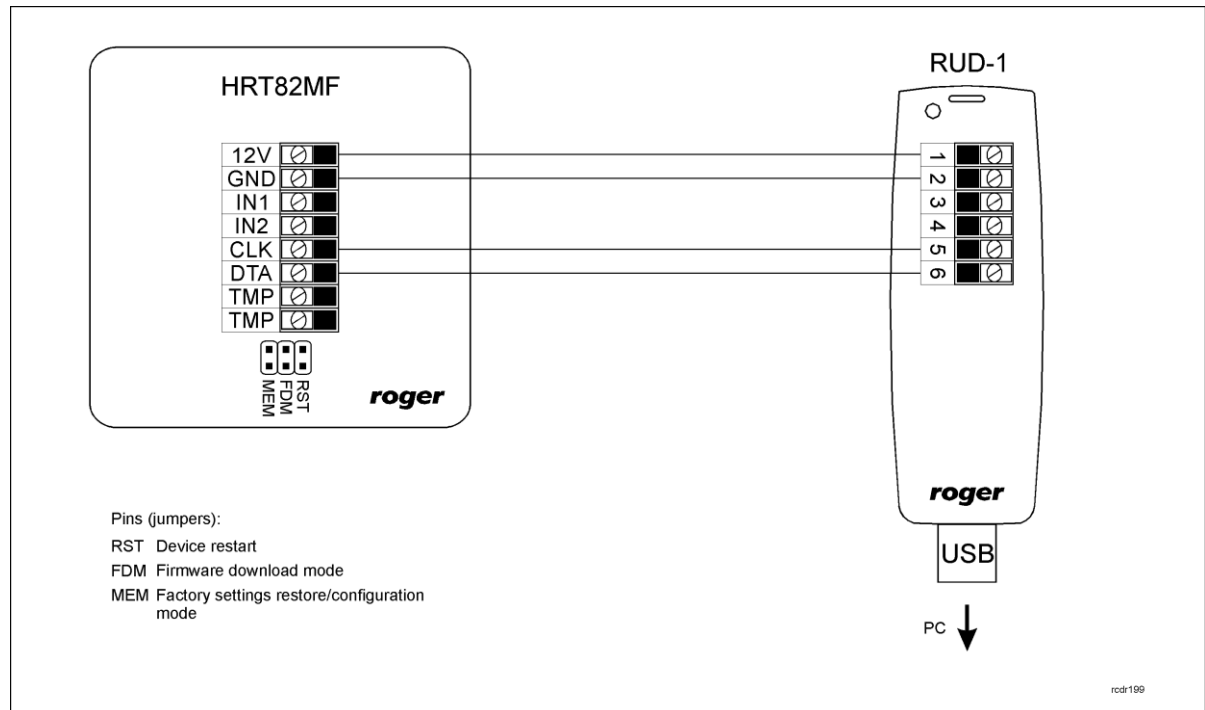

Fig. 5 HRT82MF and RUD-1 connection
1. Connect device to RUD-1 communication interface according to fig. 5
5. In the opened window select device, firmware version, communication channel and serial port with connected RUD-1 – see fig. 5